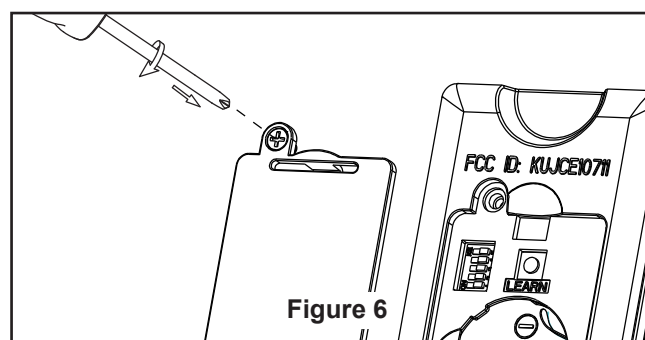

Figure 6
- ☐ **6.** Replace battery cover on the remote control with previously removed screw by screwdriver. (Figure 6)